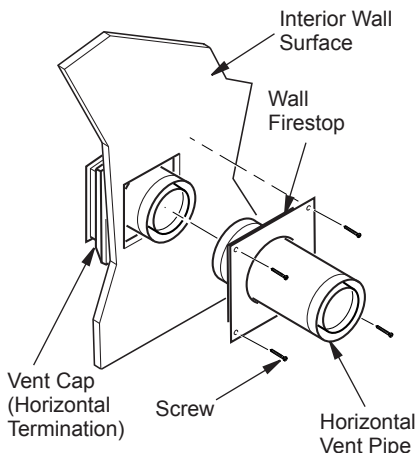
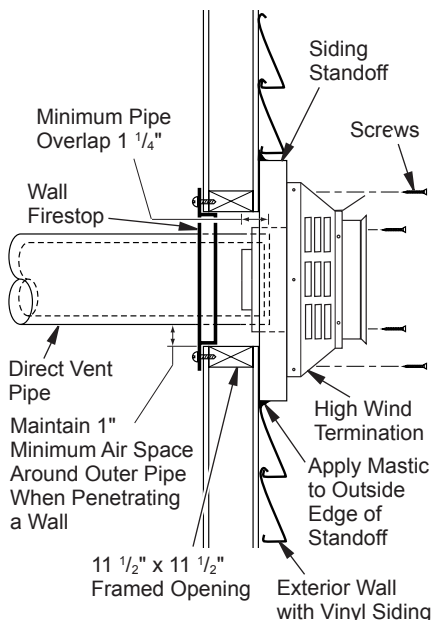

Figure 12 - Connecting Vent Cap with Horizontal Vent Pipe
Figure 13 - Typical Horizontal Termination Cap Mounting with Additional Siding Standoff Installed
7. **Connecting Vent Cap with Horizontal Vent Pipe:** Slide wall firestop over vent pipe before connecting horizontal run to vent cap (see Figure 12).
Carefully move fireplace, with vent assembly attached, toward wall and insert vent pipe into horizontal termination. The pipe overlap should be a minimum of 1 1/4" (see Figure 13, page 11).
Slide wall firestop against interior wall surface and attach with screws provided (see Figure 12). See Figure 13, page 11, for horizontal termination details.